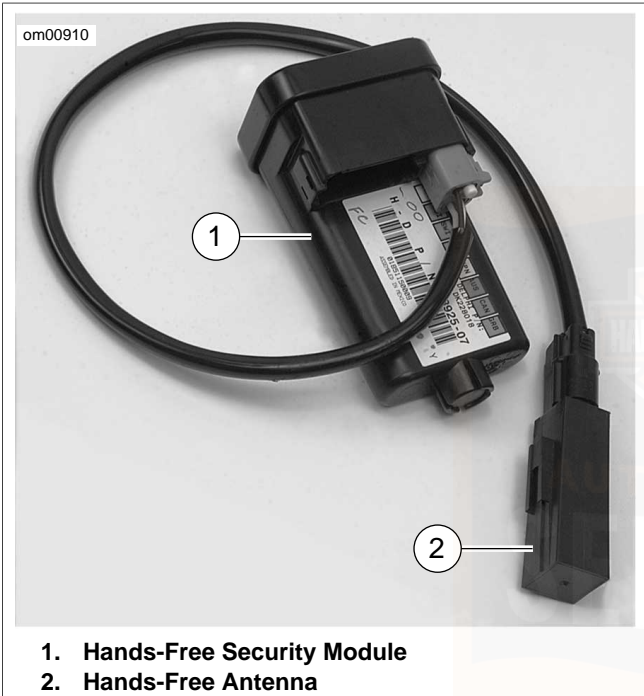

Figure 12. Security Module w/Antenna
See Figure 12. The Harley-Davidson Smart Security System (H-DSSS) consists of a Hands-Free Security Module (HFSM) (1) and a Hands-Free Antenna (2) mounted on the motorcycle, and a Hands-Free Fob **carried** by the rider/passenger.